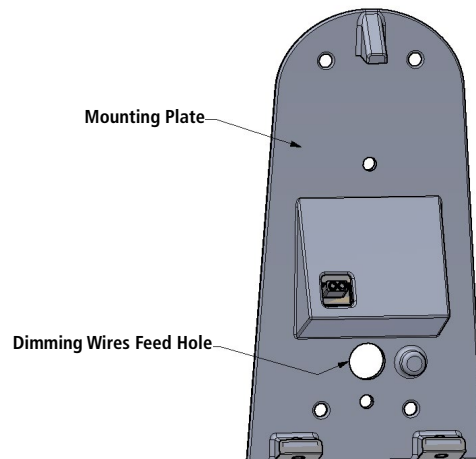

FIGURE 5
- Dimming wires to be connected to external dimmer. Feed dimming wires and connector through hole on mounting plate. See **Figure 5**.
- Attach mounting plate to junction box using (2) 6-32 screws. See **Figure 5**.